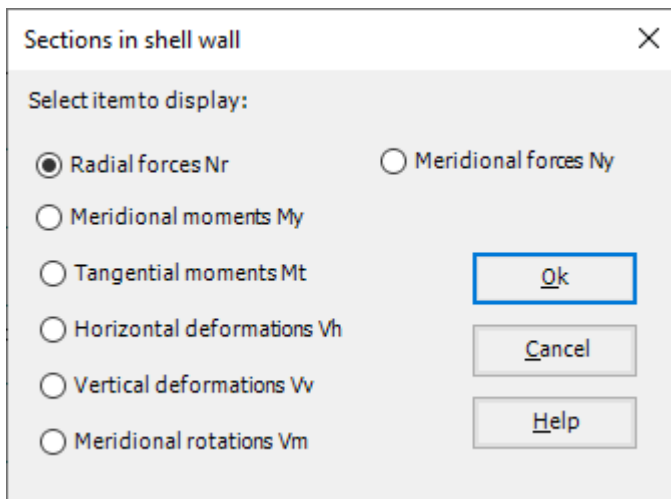

Figure 6.22 "Sections in shell wall" option box
- Choose "Sections in shell wall" command from "Section" menu. The following option box in Figure 6.22 appears